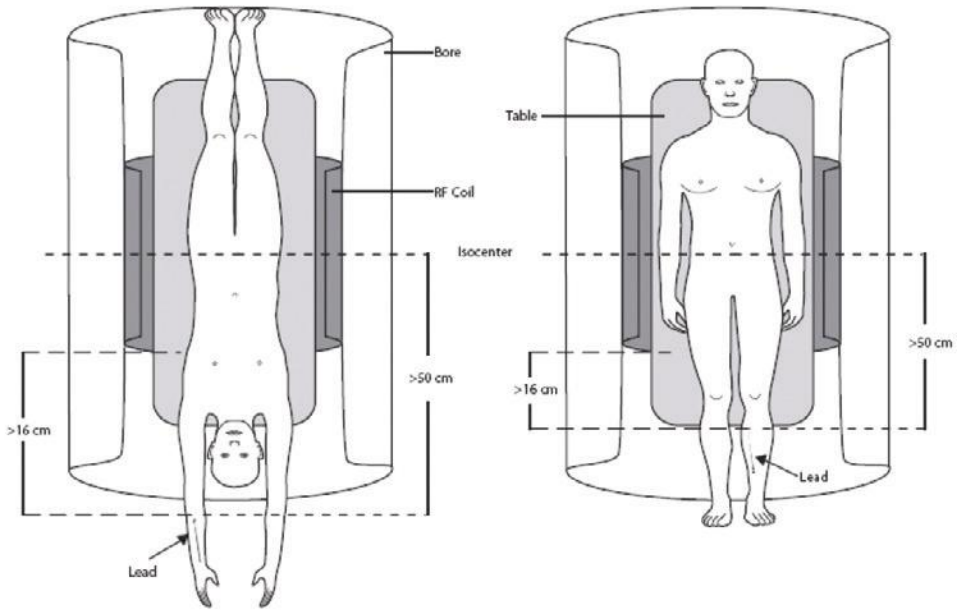

Figure 2-1: Left: Lead implanted in the forearm. Right: Lead implanted in the lower leg.
- Static magnetic field of 1.5 Tesla (T) or 3 T.
- The entire StimRouter Lead must be at least 50 cm (19.7 in.) from the center of the MR system's bore (the iso-center of the bore) and at least 16 cm (6.3 in.) outside of the MR coil measured from the edge of the MR coil, to ensure patients safety relative to MRI-related heating. See Figure 2-1.